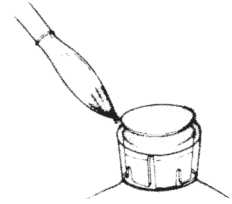

Fig. 12
6. The PVC ring must remain in position around the female. Squeeze EZ PickUp® (220237) into and around the female's 360° undercut (Fig. 12). Squeeze EZ PickUp® on the top and sides of the female.